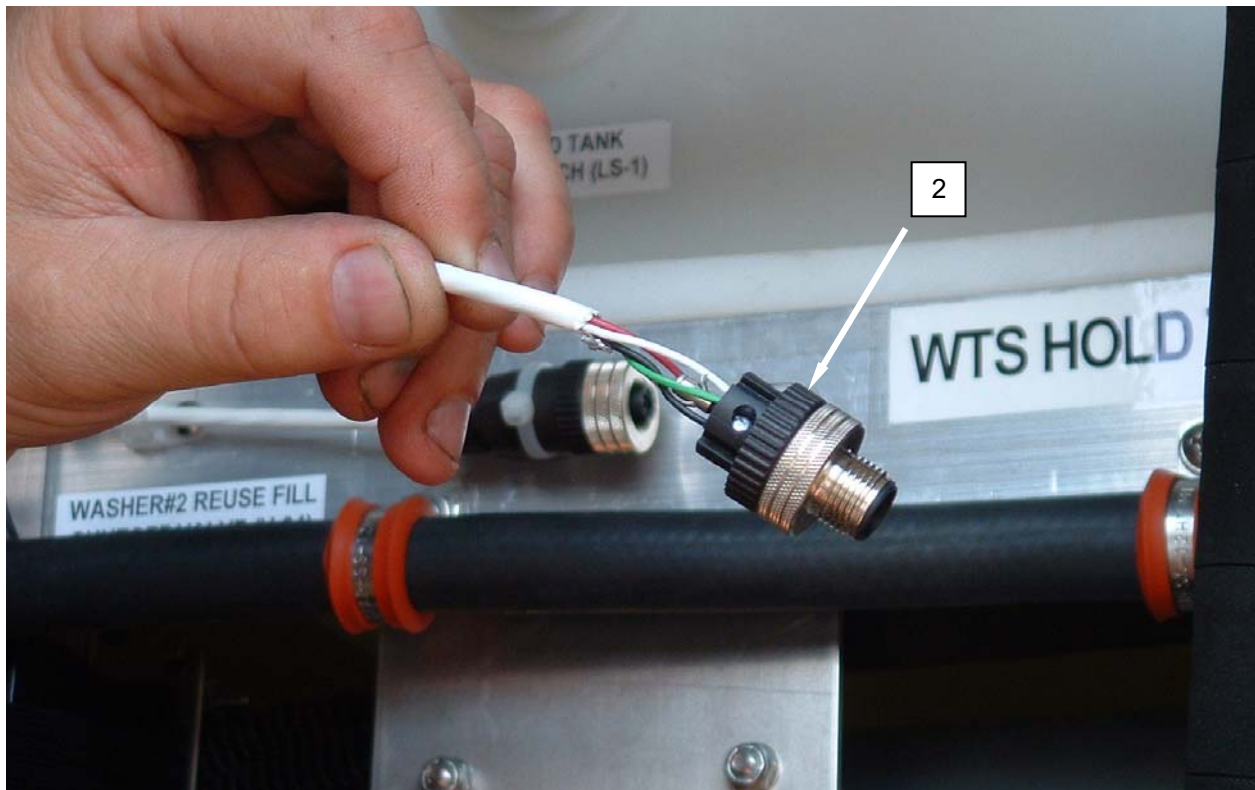

Figure 2. Replace the Level Sensors.
2. Disconnect electrical quick disconnect (**Figure 2, Item 2**) from level sensor (**Figure 3, Item 3**).
4. Disassemble electrical quick disconnect (**Figure 2, Item 3**), and transfer wiring from the replacement level sensor (**Figure 3, Item 3**).
6. Connect electrical quick disconnect (**Figure 2, Item 1**) to replacement level sensor (**Figure 3, Item 3**).